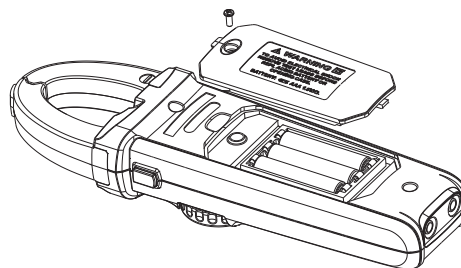

Figure 11
X. Maintenance and Upkeep (See Figure 11)